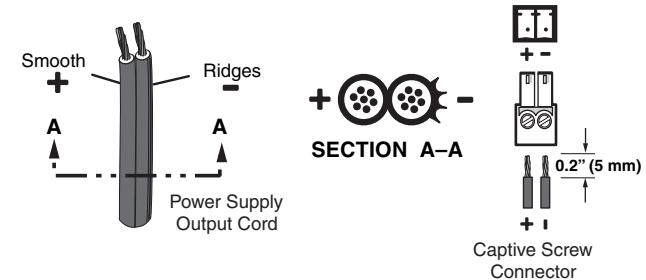

Figure 2-7 — Power connector wiring
1. Power connector—Plug the external 12 VDC power supply into this 2-pole captive screw connector. Figure 2-7 shows how to wire the connectors.
CAUTION Power supply voltage polarity is critical. Incorrect voltage polarity can damage the power supply and the switcher. Identify the power cord negative lead by the ridges on the side of the cord (figure 2-7).